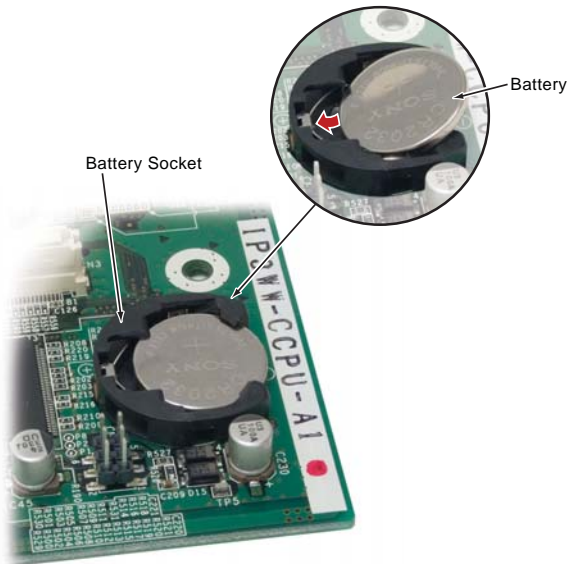

Figure 2-5: BATTERY INSTALLATION
2.4.1.2 CCPU Installation (Figure 2-5 - Figure 2-6)